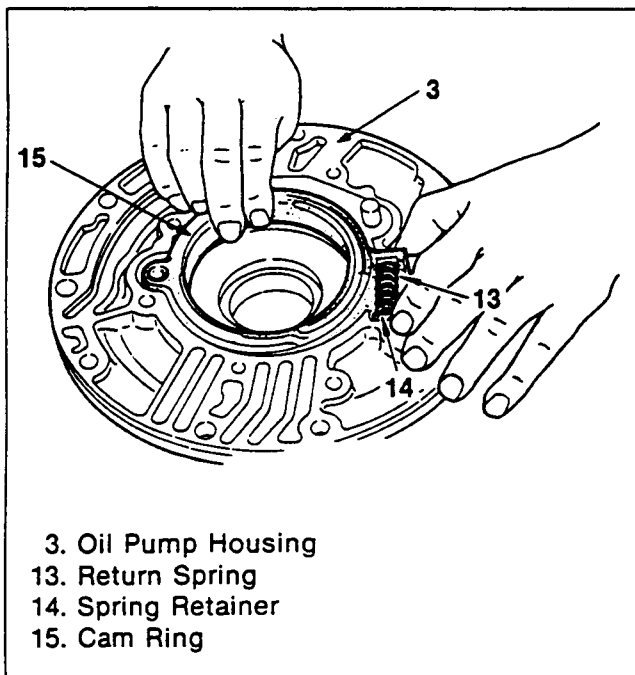

Figure 71. Cam Ring Installation (2)
Cam Ring (Figures 71 and 72)
2. Assemble the return spring and spring retainer to the cam ring and, pushing the spring with your finger, install the cam ring in the housing (figure 71).